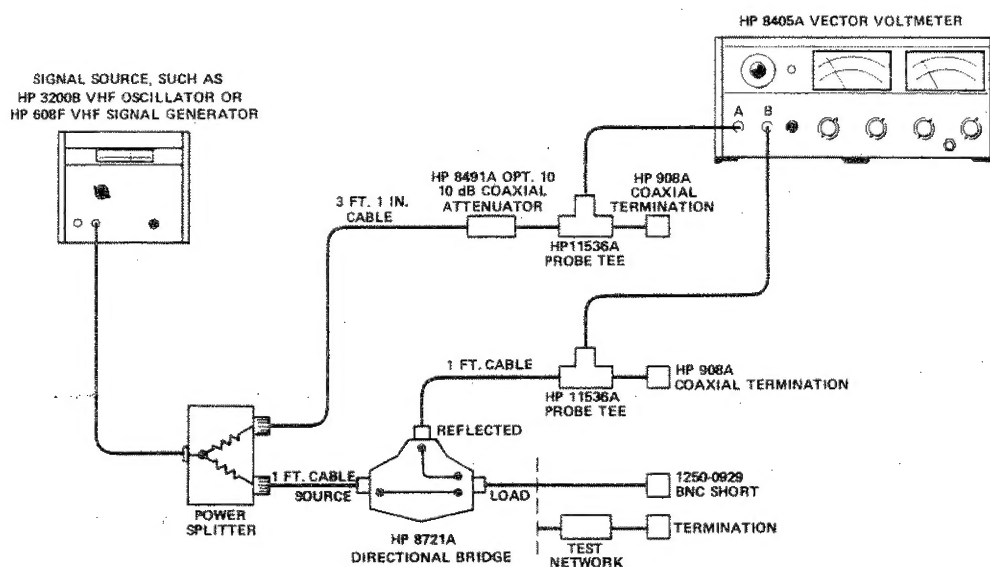

Figure 7. Setup for Making Reflection Measurements with HP 8405A
- a. Setup the equipment as shown in Figure 7. Be sure to use the cable lengths specified (from the HP 11652A) in order to ensure proper phase matching between channels A and B.